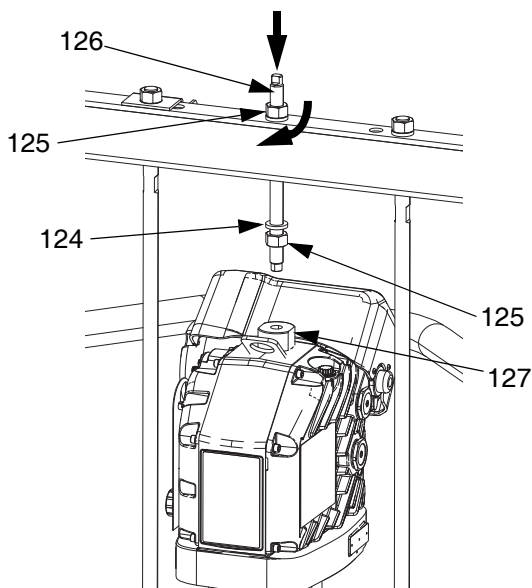

FIG. 29
- b. Install threaded rod (126) through center hole in the crossbar. Install lock washers (124) and nuts (125) onto threaded rod (126), both above and below crossbar. Use wrench to hold lift ring adapter (127) and tighten threaded rod (106) into lift ring adapter (127) using another wrench. See FIG. 29.
- c. Tighten nut (125) below crossbar to 25 ft-lb (34 N•m) maximum.
- d. Tighten nut (125) above crossbar to lock driver in place.